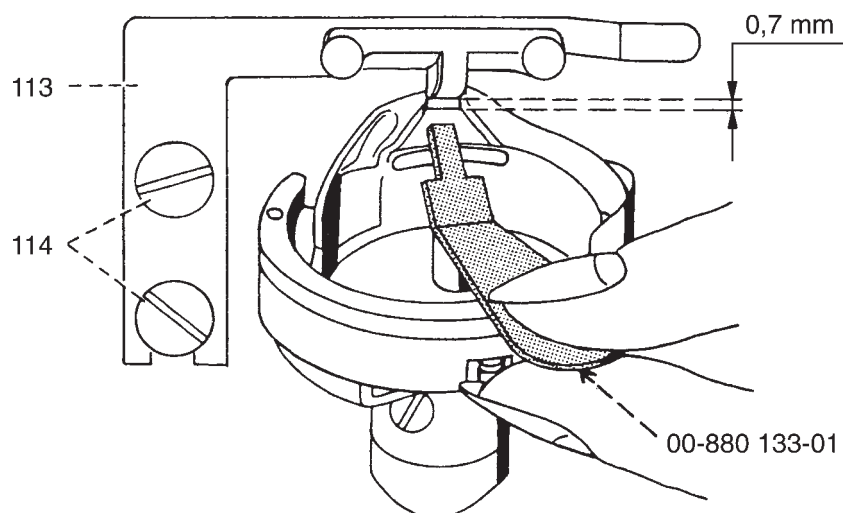

Fig. 68
- It must be possible to insert clearance gauge (00-880133-01) with ease but without play between the position finger and the bottom of the groove in the bobbin case base (fig. 68).